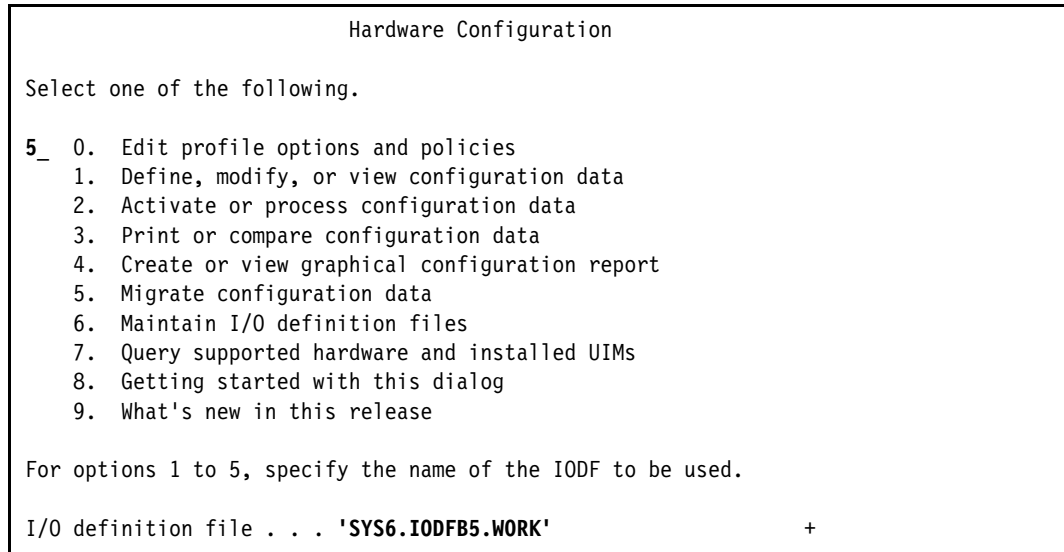

Figure 5-108 HCD - Hardware Configuration: migrate configuration data
- From the HCD main panel, enter the work IODF name used. Select option **5. Migrate configuration data** (Figure 5-108).